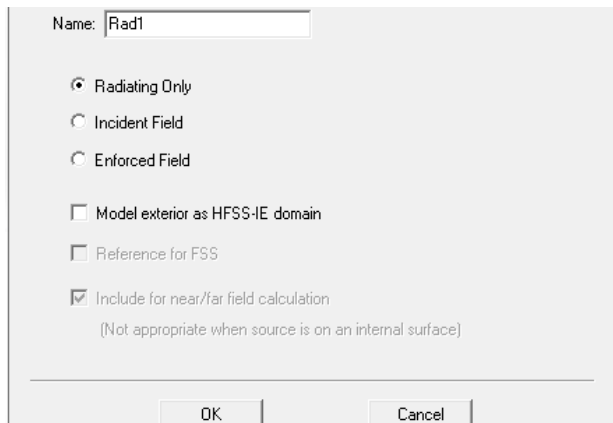

Figure 34. Radiation Boundary dialog box
- 4 Edit the fields as shown in Figure 34 and click **OK**.